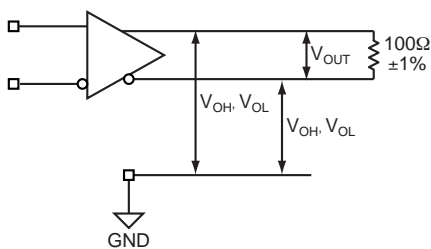

Figure 1a. LVDS Differential Measurement
- 11. Measured as per Figure 1a, 100Ω across Q and /Q outputs.